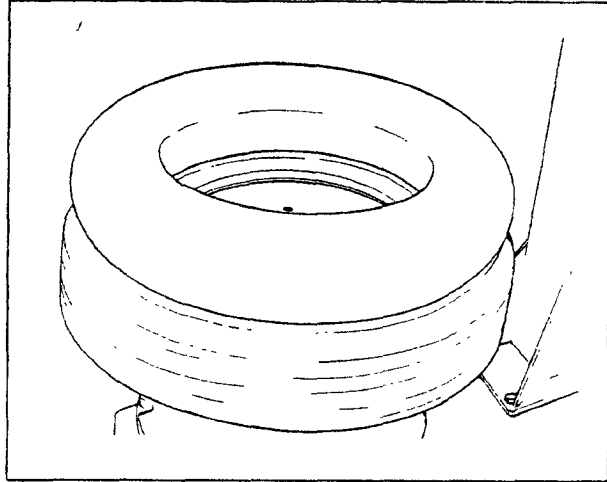

Fig.20
B. Confirm that the tube is designed for tires (fig.20).